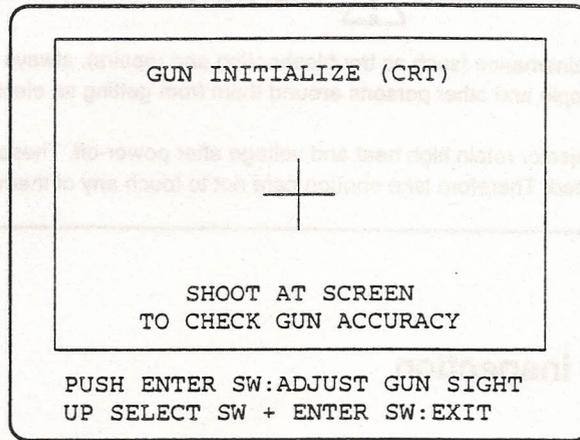
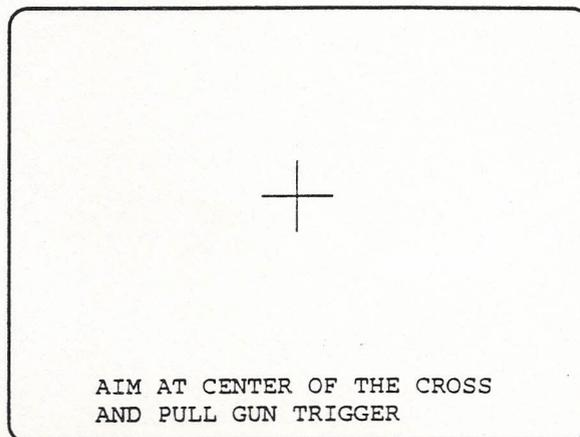

Fig. 2-1 GUN INITIALIZE (CRT) screen 1
Fig. 2-2 GUN INITIALIZE (CRT) screen 2
This function sets the gun aiming (Fig. 2-1).
- 1** The screen indicated in Fig. 2-1 allows you to check if the gun has the correct aim. Shoot the gun at the screen and the screen will display bullet impact where a bullet has reached. Check if the bullet impact is displayed at the point at which you aimed.
- 2** While in the screen indicated in Fig. 2-1, press the enter switch (or step on the pedal) to go to the screen illustrated in Fig. 2-2.
- 4** While on the screen indicated in Fig. 2-2, aim the gun at the center of the cross (+) and shoot. This will initialize the gun aiming. After shooting, it will go back to the screen indicated in Fig. 2-1.
- 5** While on the screen indicated in Fig. 2-1, check if you can shoot properly at every point and corner inside the frame. If the gun aiming is not good, press the enter switch (or step on the pedal) to go back to the screen indicated in Fig. 2-2. Then aim the gun again at the center of the cross and shoot to adjust the aiming again.